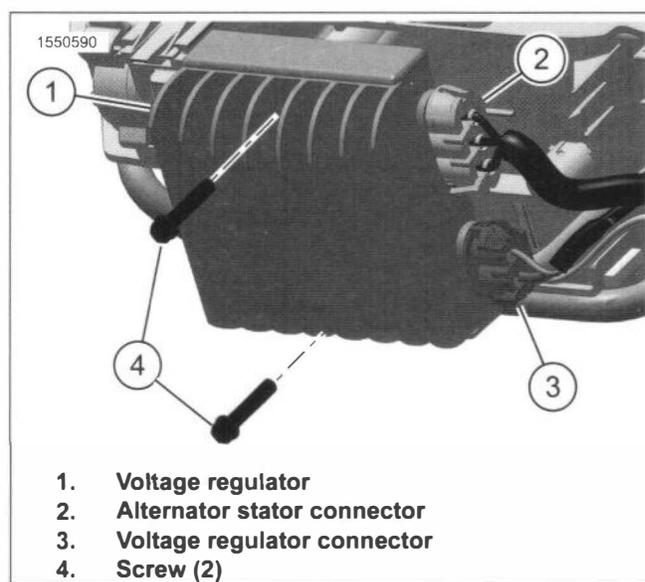

Figure 8-21. Voltage Regulator
1. See Figure 8-21. Remove voltage regulator.
- a. Remove screws (4).
- b. Disconnect alternator stator connector (2).
- c. Disconnect voltage regulator connector (3).
- d. Remove voltage regulator (1).
1. See Figure 8-21. Install voltage regulator.
- a. Connect voltage regulator connector (3).
- b. Connect alternator stator connector (2).
- c. Position voltage regulator (1).
- d. Install screws (4). Tighten.